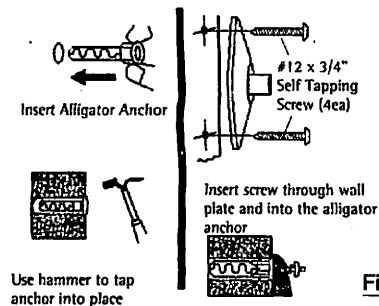

Figure 9
2. Drill holes in the solid concrete or hollow block using a 5/16" masonry bit. Once the holes are drilled, insert the #12-14 Alligator anchors (Figure 9) into the holes, making sure the anchor is flush with the surface of the wall (Figure 9).
3. With the wall anchors in place, mount the wall plate using the #12 x 1-3/4" self tapping screws (Figure 9).